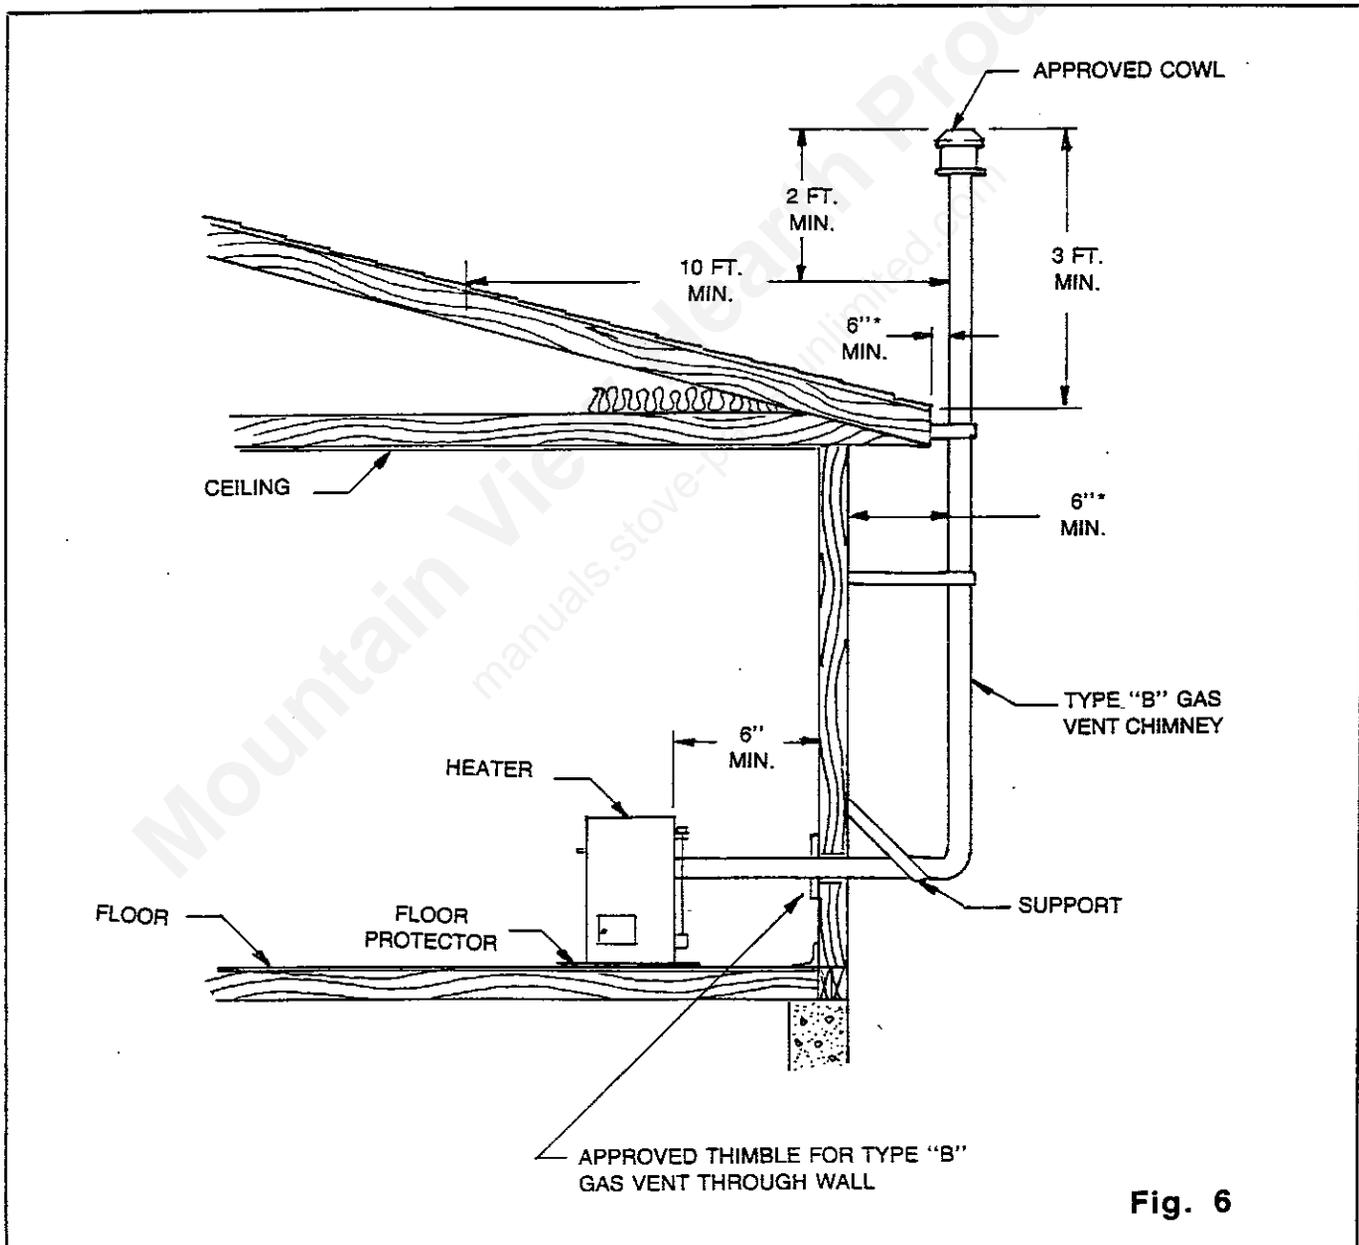

Fig. 6
5. Safe clearances are shown in this drawing. To prevent a home fire, make sure the heater is installed no closer than the distances shown. (See Fig. 6)